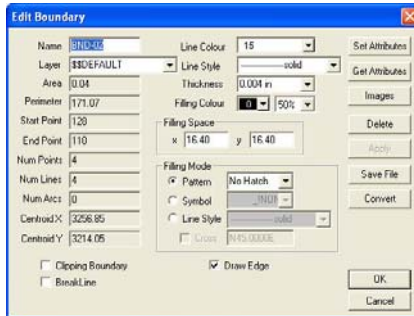

Figure 14-82. Edit Boundary Dialog Box
The *Edit Boundary* dialog box appears (Figure 14-82).
1. Click **Convert** on the *Edit Boundary* dialog box (Figure 14-82 on page 14-64).